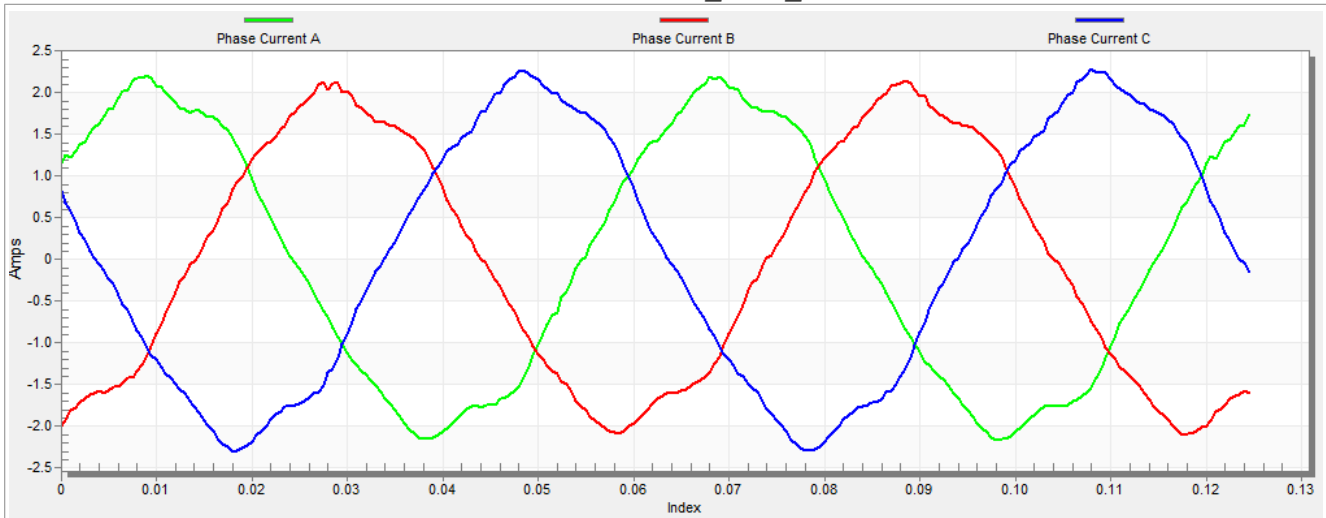

Figure 28. Phase currents
5. The optimal ratio for the V/Hz profile can be found by changing the V/Hz factor directly using the "M1 V/Hz factor" variable. The shape of the motor currents should be close to a sinusoidal shape (Figure 28). Use the following equation for calculating V/Hz factor: